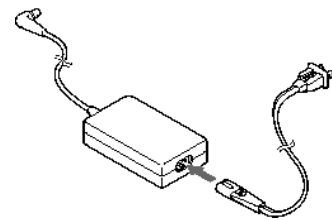

Figure 1-2 AC Adapter Unit
- AC adapter with AC power cord (located in the Accessories box). (Figure 1-2.)